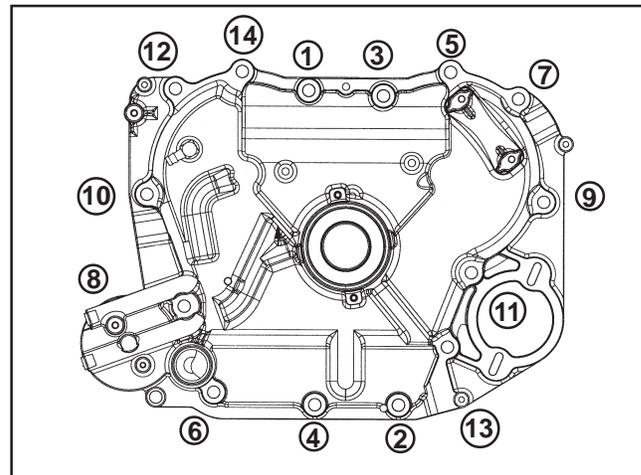

Figure 10-31. Closure Plate Fastener Torque Sequence.
5. Torque the closure plate fasteners to **24.5 N·m (216 in. lb.)** using the sequence shown in Figure 10-31.